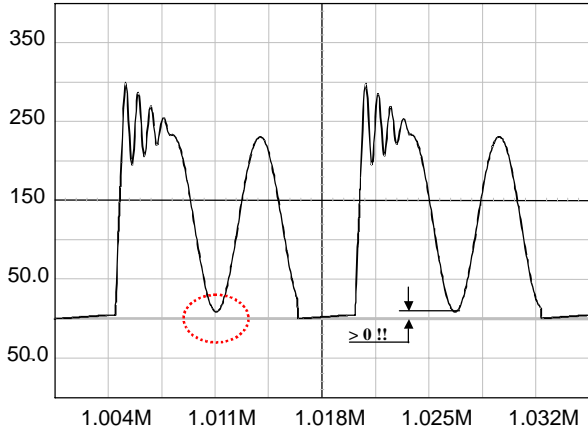

Figure 45. The reflected voltage shall always be greater than the minimum input voltage to avoid the forward biasing of the MOSFET body–diode.
1. The lateral MOSFET body–diode shall never be forward biased, either during startup (because of a large leakage inductance) or in normal operation as shown by Figure 45. This condition sets the maximum voltage that can be reflected during  $t_{off}$ .